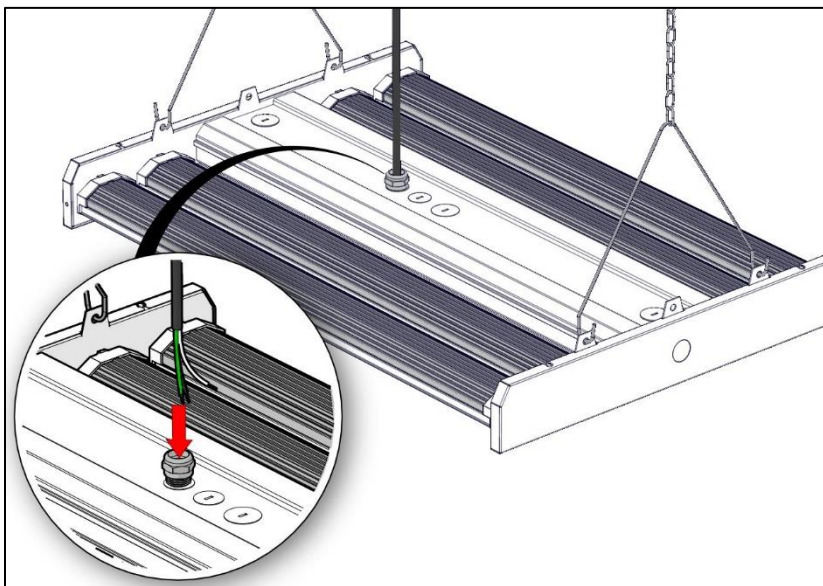

Figure 6
8. Run the incoming supply wire with either a rigid conduit or flexible conduit to the 1/2" trade size KO removed in Step 4. Use the appropriate conduit connector (provided by others) to secure the conduit to the fixture. Alternately, a cord can be attached to the housing using a 1/2" NPT cord grip. (Figure 6)